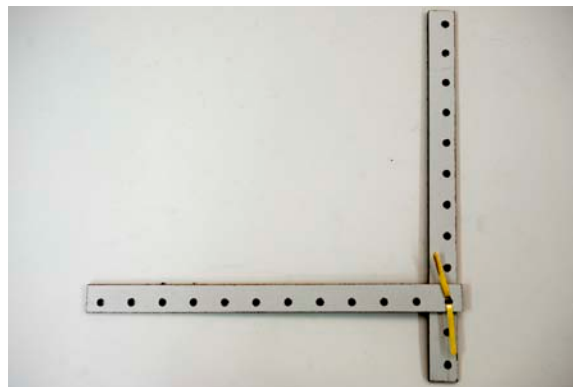

Figure 2: Two links assembled before attaching to base
- a. Assemble two links with a floating pivot as in Figure 2. The horizontal one will become the handle, and the vertical one will become the lever. Make sure the ears of the floating pivot are pointing up towards you, so they won't get hung up as you try to slide it along the base.